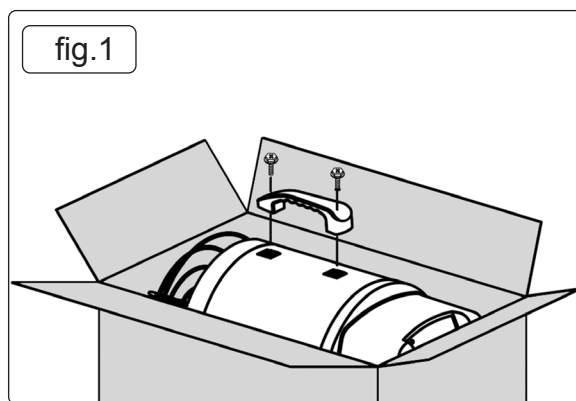

fig.1
- 4.2. Attach handle by lining up the holes in the handle with the holes in the upper shell of the heater (fig.1).